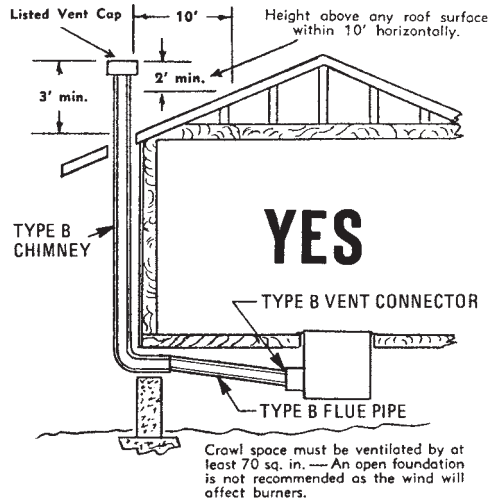

Figure 1
1. Flue pipe **MUST** always have an upward slope (1/4 inch per foot minimum). **See Figure 1.**
2. If there is no chimney, you will have to run a flue pipe from the furnace, up to and above the house roof. **See Figure 1.** Select a location permitting the most direct run. Try going up to the roof through a closet. Remember that the flue pipe must slope upwards at least 1/4 of an inch for each foot and you may find floor joints in our path, so it is important to plan the run carefully. **See Figure 8.**